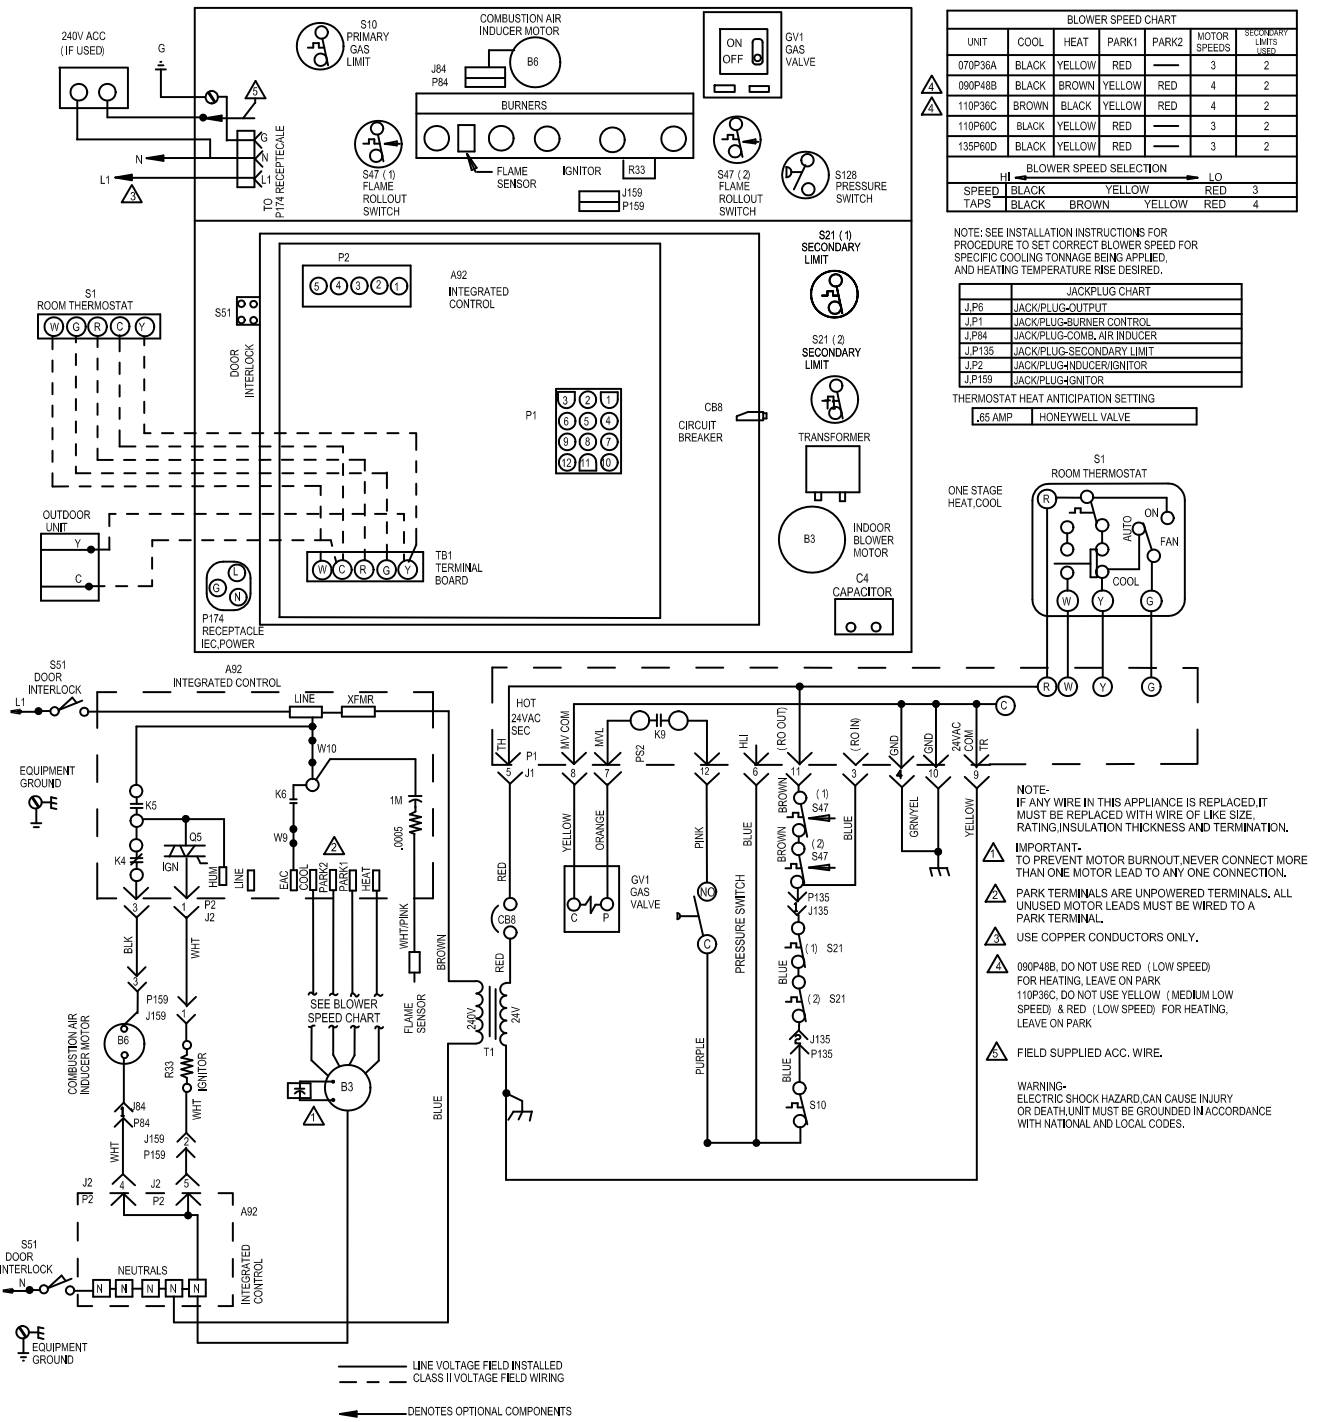

FIGURE 28
Refer to figure 28 schematic wiring diagram.
- 4 - Complete the wiring connections to the equipment. Use the provided unit wiring diagram shown in figure 28. 18-gauge wire or larger that is suitable for Class II rating for thermostat connections.
- 8 - Install the room thermostat according to the instructions provided with the thermostat. See figure 28 for thermostat designations. If the furnace is being matched with a heat pump, refer to the instruction packaged with the dual fuel thermostat.
(follow steps below or see Figure 28 for more detail)